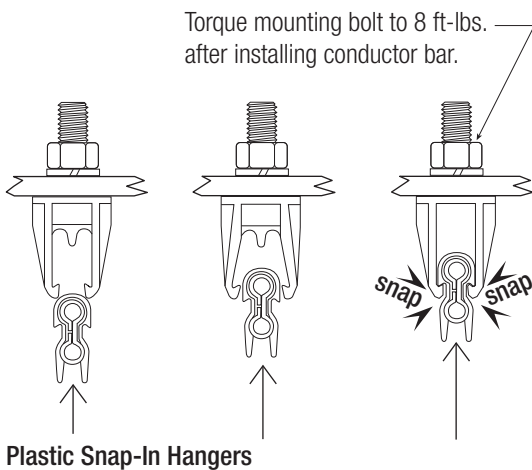

Figure: 9-3
- B. For plastic snap-in hangers, torque mounting bolt to 8 ft-lbs. after installing all conductor bars. See **Figure 9-3**.